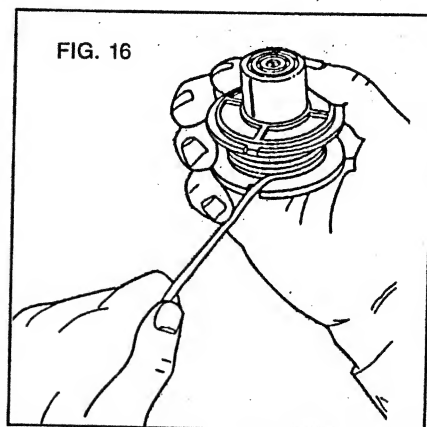

FIG. 16
- b. Place the loose end of the cutting line through the gap in the spool flange as shown in Figure 16. (Either gap will do but try to leave yourself 8 to 10 centimetres (3 to 4 inches) of line to work with as shown in the figure.)